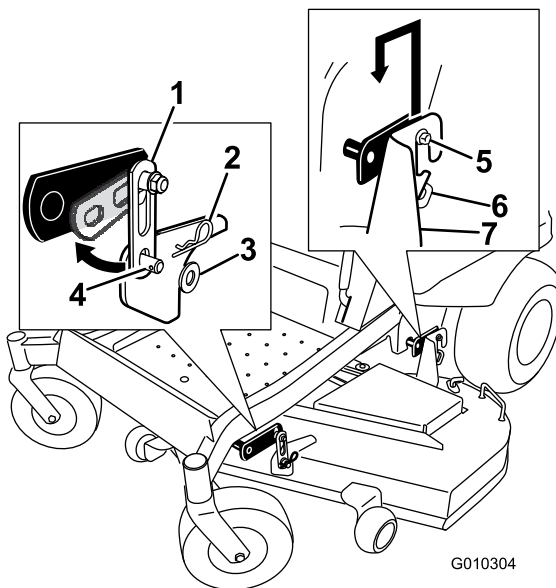

Figure 75
5. Lift the rear of the mower deck and guide the hanger brackets over the rear hanger bolts (Figure 75).
6. Attach the front support on the mower deck to the front deck hangers and secure them with a washer and hairpin cotter (Figure 75).
2. Remove the hardware from the front deck hangers on both sides of the deck (Figure 75).
3. Carefully lift the deck off the rear hanger bolts and lower the front of the mower deck to the ground (Figure 75).